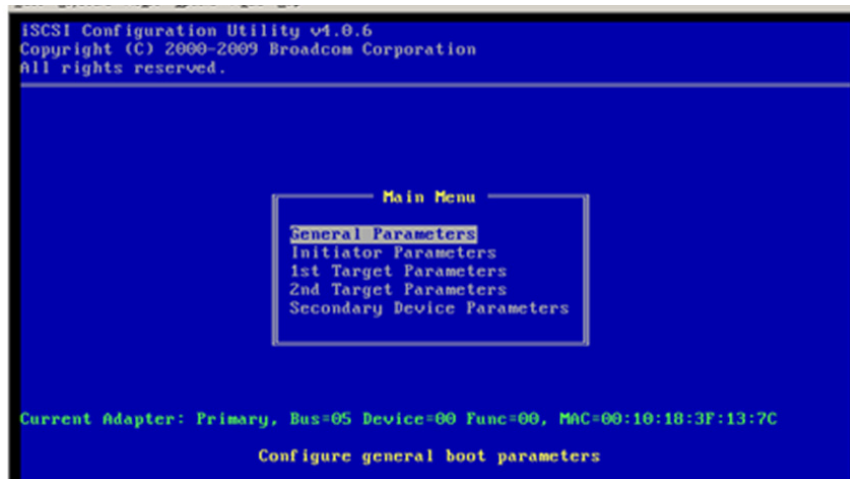

Figure 30 Selecting General Parameters
4. Select **General Parameters**, as shown in Figure 30.
9. For the secondary device, select **General Parameters**, as shown in Figure 30.